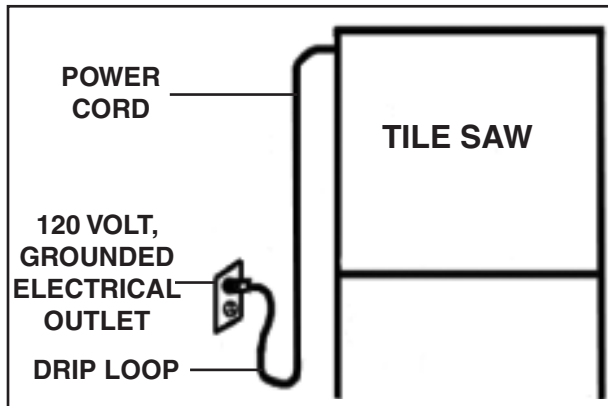

Figure 1
13. **Always arrange a “drip loop” in the Power Cord (11) connecting the Tile Saw to a 120 volt, grounded, electrical outlet.** A drip loop is that part of the Power Cord below the level of the outlet, or the connector if an extension cord is used, to prevent water traveling along the Power Cord and coming in contact with the outlet. If the Power Plug or electrical outlet *does* get wet, do not unplug the Power Cord. Disconnect the fuse or circuit breaker that supplies power to the tool. Then, unplug and examine for presence of water in the outlet. See Figure 1, above.
19. **Always keep the water level at the recommended level.** Fill the tray in the Body (19) until it is about 3/4 completely submerged, but do not overfill.
20. **Avoid splashing water on the Motor (32), Power Switch, Power Cord/Plug, or any other electrical component.** Make sure to stand on a dry, insulated surface such as a rubber mat while using the Tile Saw.